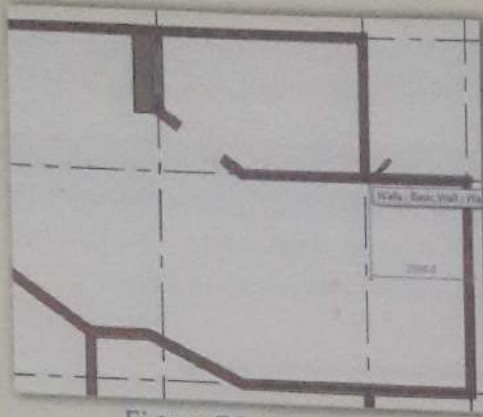

Figure 75: Split Element
8. Pick the intersection point of the wall as shown in below image. (Figure 75&76).